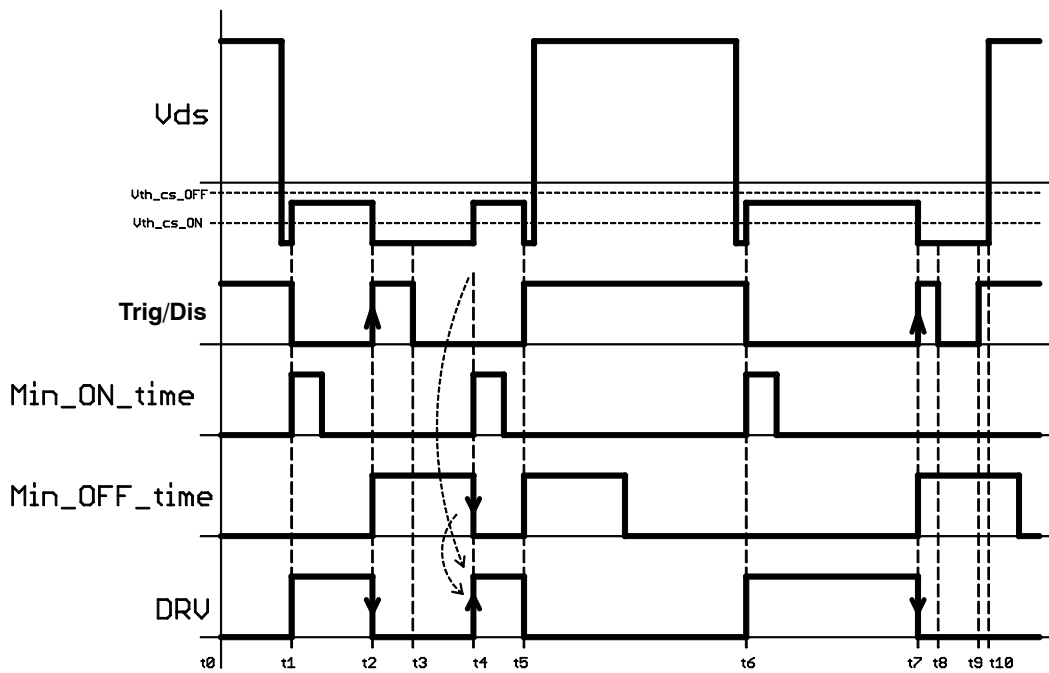

Figure 58. IC Behavior When Multiple Trigger Pulses Appear on Trigger Input
Figure 58 shows IC behavior in case the trigger signal features two pulses during one cycle of the V_{ds} (CS) signal. Trigger enables driver at time t_1 and DRV turns ON because the V_{ds} voltage is under $V_{th_cs_ON}$ threshold voltage. The trigger signal and consequently DRV output fall down in time t_2 . The minimum OFF time generator is triggered in time t_2 . Trigger drops down to LOW level in time t_3 but there is still minimum OFF time sequence present so the DRV output stays low. When the minimum OFF time